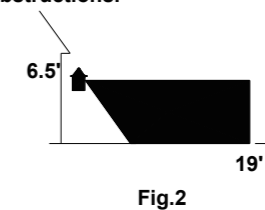

Fig.2
- Installation of a height of 6.5' at 20°, the lantern will provide a detection distance up to 19' (See fig.2) The sensitivity will be higher as the environmental temperature is getting cool. You may wish to make adjustment again seasonally.